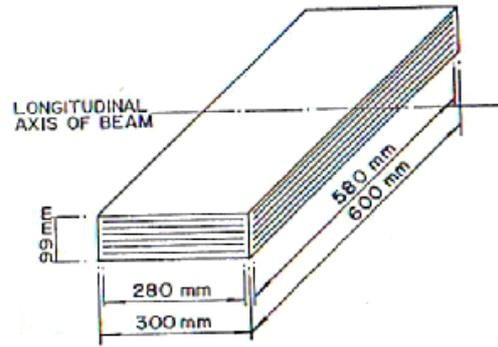

Figure 3
4. The selection and specification of bearings for bridges are very important to ensure effective load transfer to the substructure and to allow permissible movement. Figure 3 shows a laminated bearing pad to be used in the design of rubber bearing. Given the data below :-